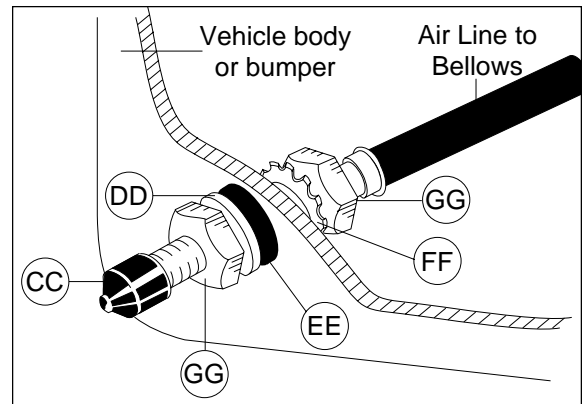

Figure 10
1. In a similar fashion to the upper bracket alignment, carefully move the bottom bracket inward and outward so as to align it to the bellows and upper bracket (Figure 10).
4. Place a $\frac{5}{16}$ " nut (GG) and a star washer (FF) on the air valve. Leave enough of the inflation valve in front of the nut to extend through the hole and to have room for the rubber washer (EE), flat washer (DD), and $\frac{5}{16}$ " nut (GG) and cap (CC). There should be enough valve exposed after installation - approximately $\frac{1}{2}$ " - to easily apply a pressure gauge or an air chuck (Figure 10).
5. Push the inflation valve through the hole and use the rubber washer (EE), flat washer (DD), and another $\frac{5}{16}$ " nut (GG) to secure it in place. Tighten the nuts to secure the assembly in place (Figure 10).
6. Route the air line along the frame to the air fitting on the air spring. Keep at least 6" of clearance between the air line and heat sources, such as the exhaust pipes, muffler, or catalytic converter. Avoid sharp bends and edges. Use the plastic tie straps (BB) to secure the air line to fixed, non-moving points along the chassis. Be sure that the tie straps are tight, but do not pinch the air line. Leave at least 2" of slack to allow for any movement that might pull on the air line.